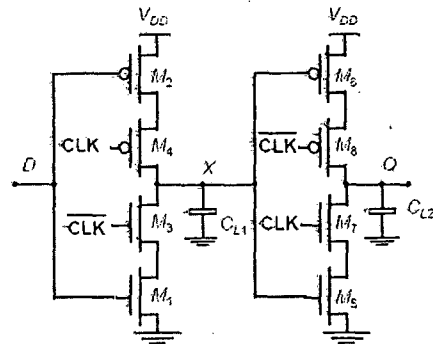

Figure 6
13.(a) Consider the C^2 MOS logic style register given in Fig.6.
- i. State the type of edge triggered register with justification. (4)
- ii. Why this circuit is insensitive to clock overlap? (8)
- iii. Derive a dual edge triggered register from this C^2 MOS logic style register. (4)